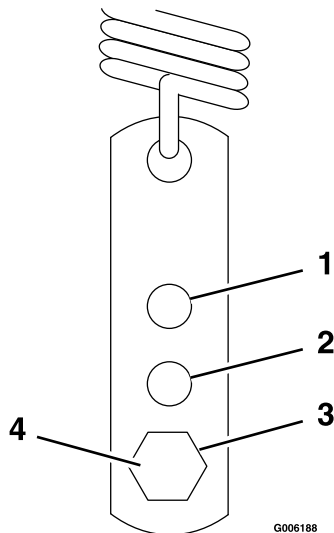

Figure 25
2. For a heavier drive setting, relocate the spring anchor links to either the “medium” or “heavy duty” positions as shown in Figure 25. The spring anchor links are attached to the upper rear corner of the hydro drive shields on the left and right hand sides of the machine.